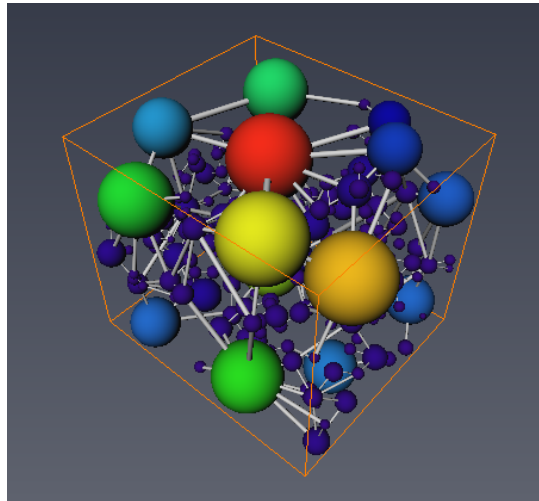

Figure 18.11: Pore Network Model View
2. Create a *Pore Network Model View* on the new network and hide the *Volume Rendering* module linked to the separated data. You can now visualize the network in the original data (see Figures 18.11, 18.12, and 18.13).